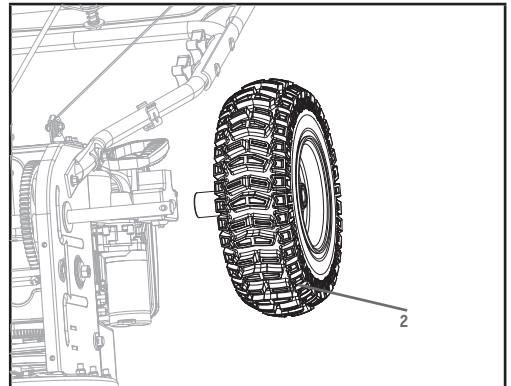

Figure 27C
3. Remove the right wheel (2) by removing the axle pin on it (Fig. 27C).